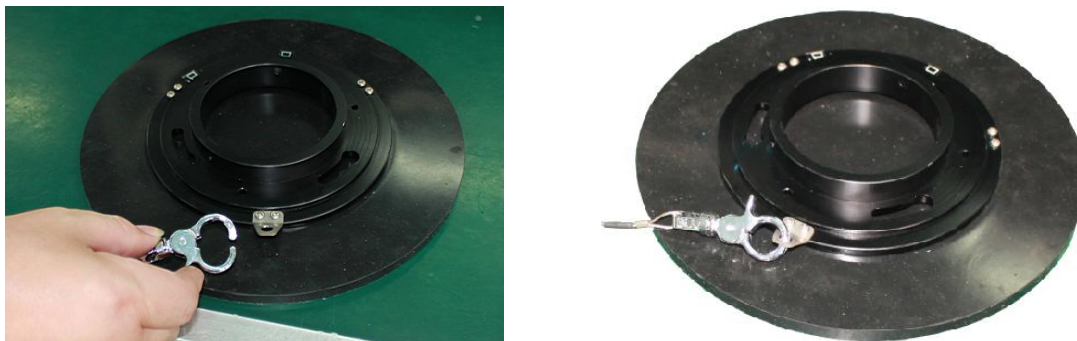

Figure 15-3
2.3 Make the anti-fall rope tied to one end of the base card port , the other end tied to the car suitable location as shown in Figure 15-3.